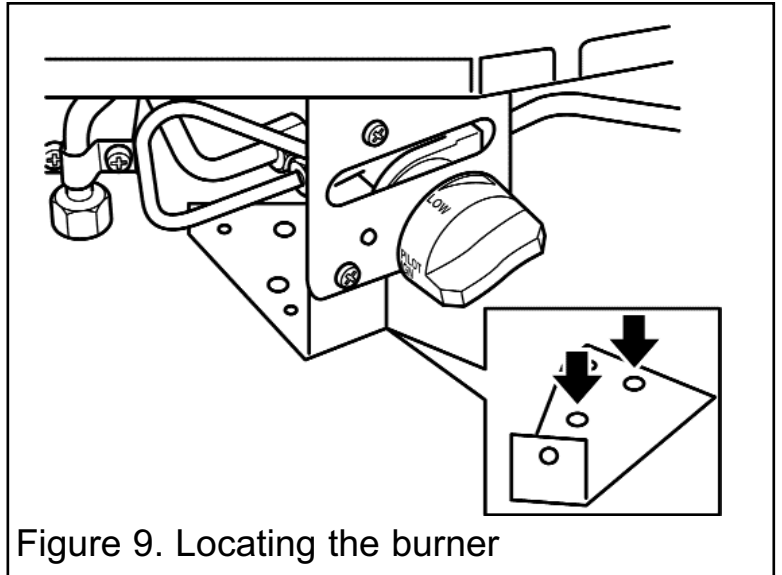

Figure 9. Locating the burner
- Mark onto the floor, the position of the two fixing holes in the front fixing bracket (See figure 9).